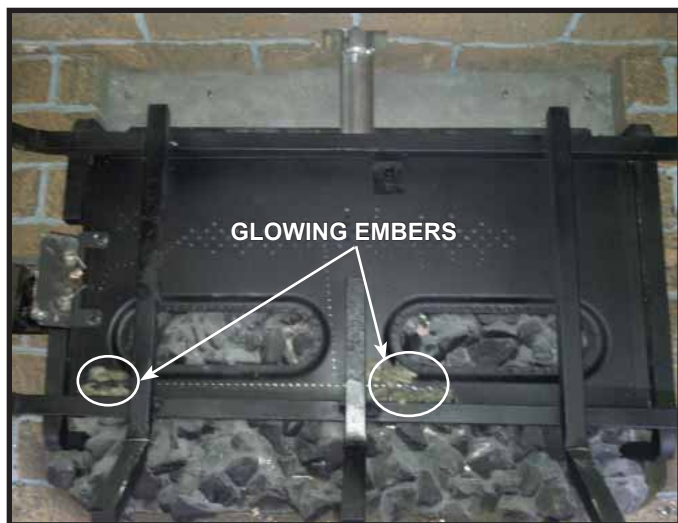

Figure 11.12. Location of Glowing Embers
- Place dime-size pieces of Glowing Embers® just in front of the port trail, but not on or in between the ports (see Figure 11.12). Care should be taken so that the ports are not covered. Failure to follow this procedure will likely cause lighting and sooting problems.